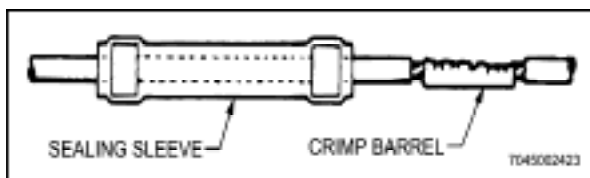

Figure 5-4 Correctly Installed Crimp Barrel
- l. Using appropriate crimping tool and die (Table 5-1) crimp splice to wire ends (Figure 5-4)